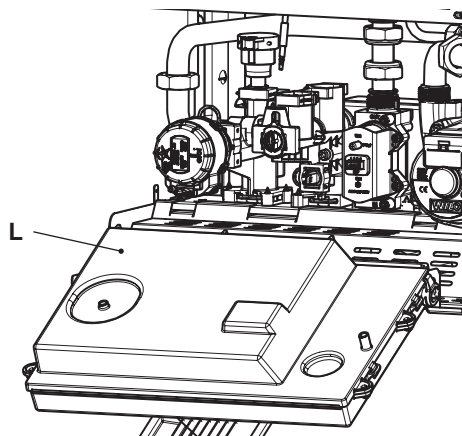

Figure 5.20
- Identify the terminal board cover L (Figure 5.20) remove the sealing screws and open it.